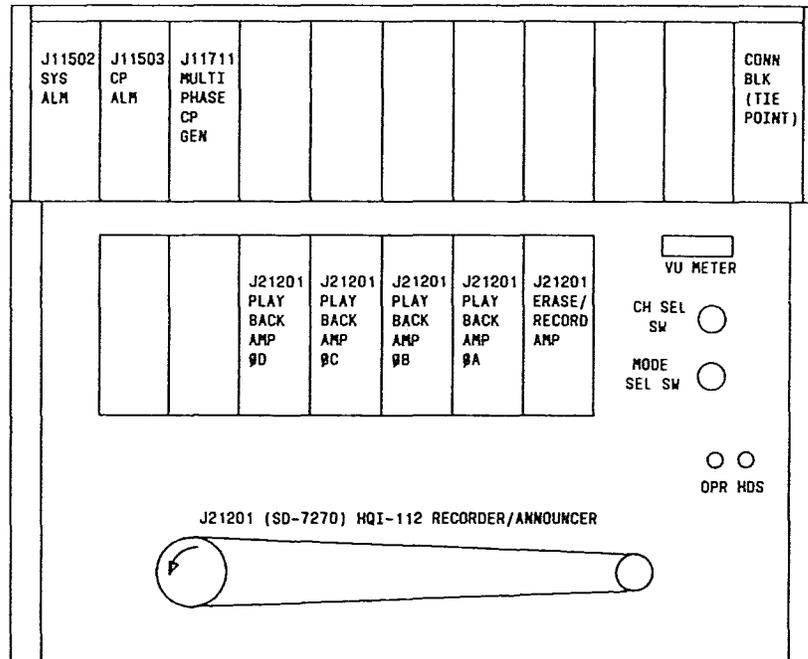

Fig. 6 - HQI-112 Ckt Pack Locations
- 5.3 Insert ckt packs as shown in Fig. 6. Up to twelve channels can be utilized, however, four channels (shown) is the norm.